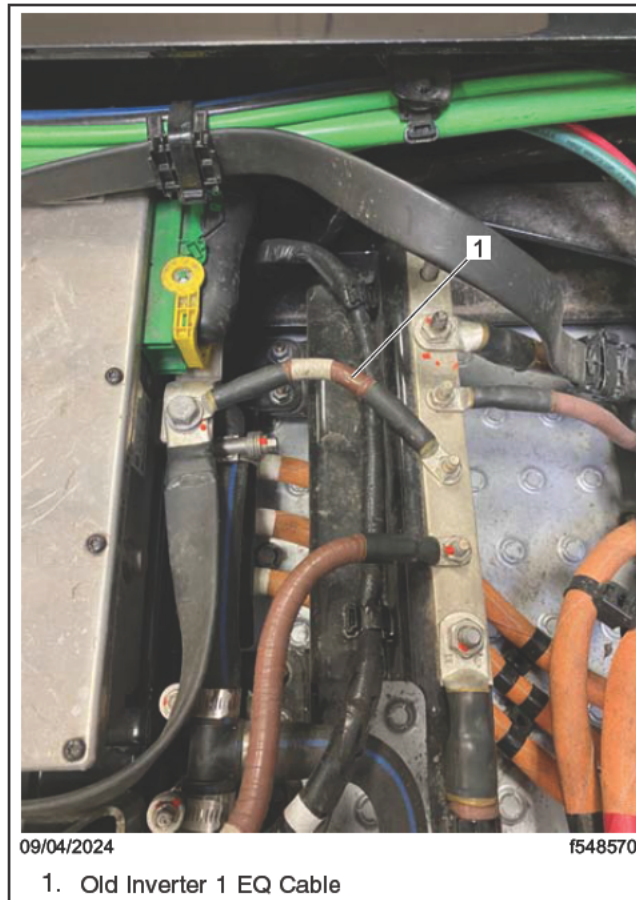

Fig. 1, Original Routing
5. Remove the mounting fasteners from the old inverter 1 EQ cable, and remove the cable from the vehicle. See Fig. 1.